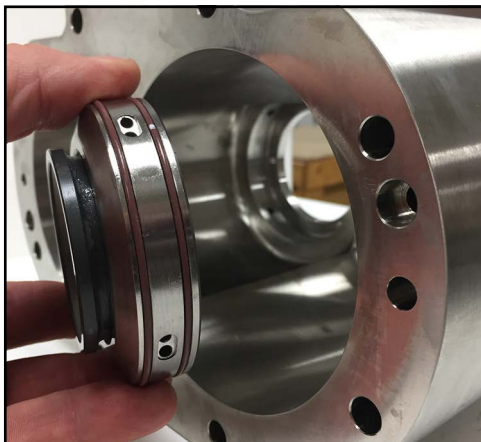

Figure 57 - Remove seal carrier from body
2. Remove the seal carrier from the body as shown in Figure 57.